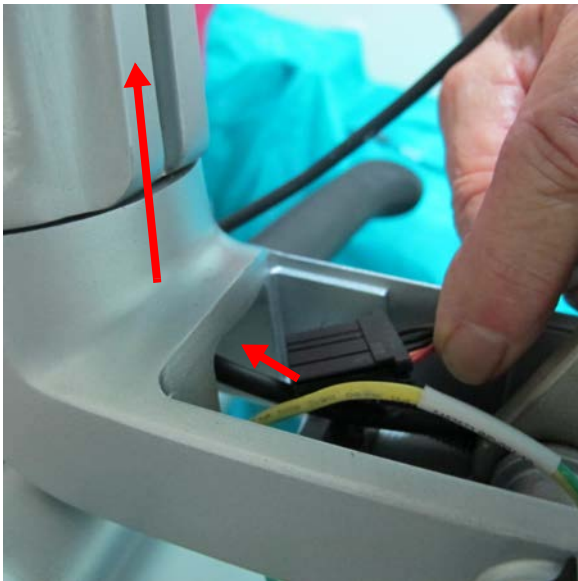
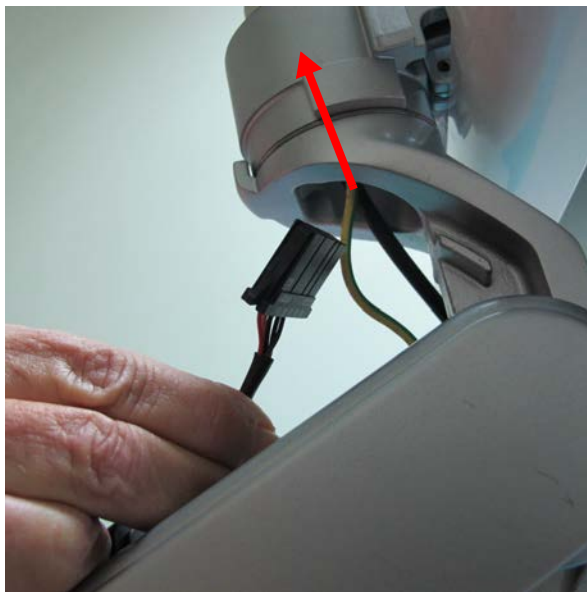

Figure 8-94 Threading the Display to OPIO Cable
Figure 8-95 Threading the Display to OPIO Cable
- 3.) Thread the "display to OPIO cable" via the base of the lower articulated arm aperture upwards towards the monitor as shown in Figure 8-94 below and Figure 8-95 below.